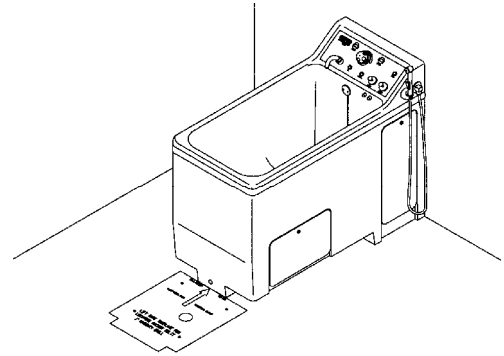

Figure 6
14. Position the provided lift base template in position as shown in figure 6. The template must be centered and against the end of the tub.